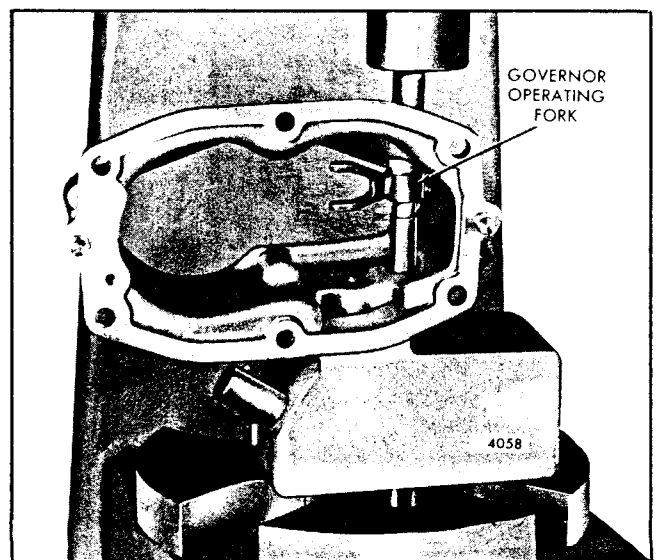

Fig. 16 - Installing Governor Operating Fork on Shaft
4. Support the operating shaft and governor housing on the bed of an arbor press with the upper end of the shaft resting on a steel block (Fig. 16). Align the flat in the fork with the flat on the shaft, then place a sleeve over the shaft and against the fork. Press the fork tight against the shoulder on the shaft or against the fork spacer. Install the set screw and lock screw, if used, in the fork.